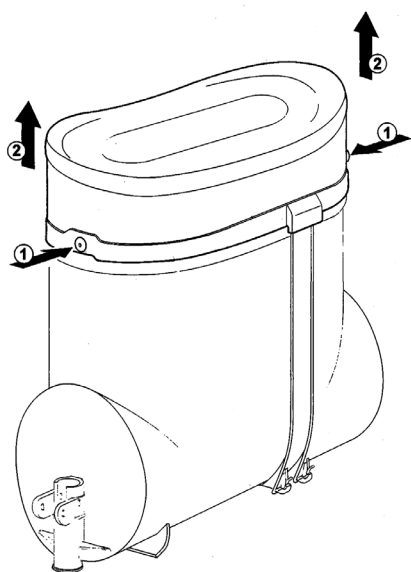

figure 1
- 8 - To remove the cover push any of the two fixing buttons and lift it. (see figure 1)